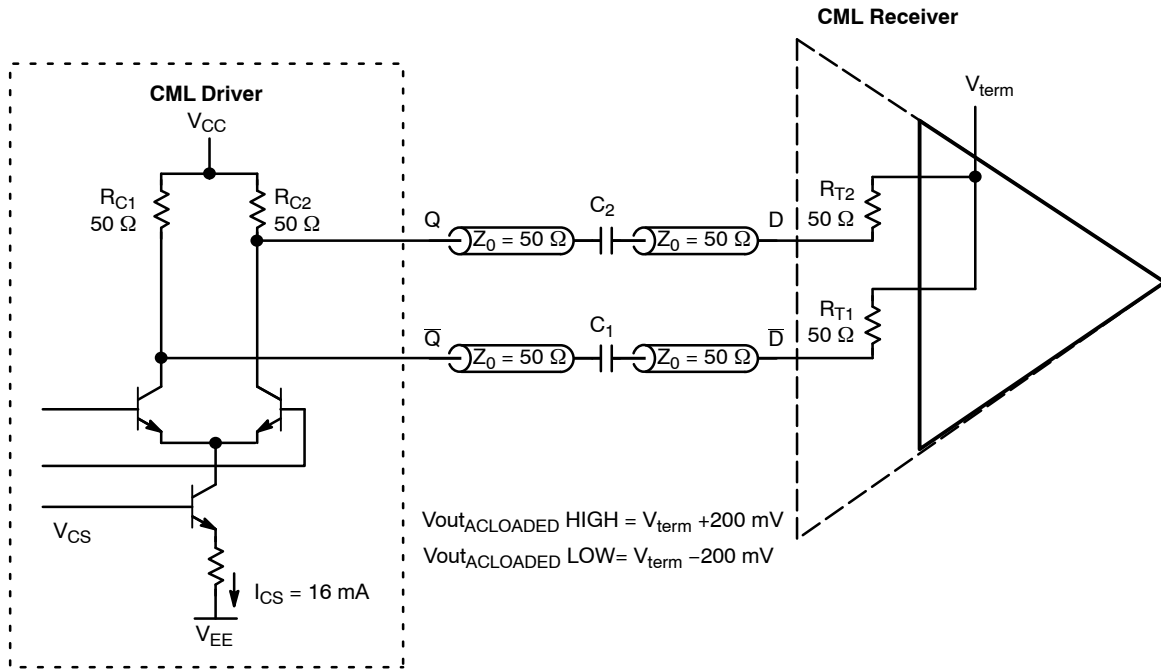

Figure 7. CML Output with Cap Coupling (AC) and Load Termination of 50 Ω to V_{term}
A driver and receiver using a cap, C_x , coupled (AC) differential interconnect and receiver side 50 Ω termination (R_T) requires a DC receiver side rebiasing, V_{term} , to the signal lines as shown in Figure 7. The coupling cap, C_x , value and the load impedance constitute an RC network affecting the signal edges. Cap coupling (AC) restricts low frequency response and may require coding to maintain a sufficient crossing density.
This AC coupled pair in Figure 7 will produce characteristic signal levels per Table 3.
The V_{term} DC bias supply associated with the CML receiver in Figure 7 needs to accommodate the receiver common mode range and bypassed to enhance rejection of common mode noise. Typically, the V_{term} bias supply may be connected directly from the receiver R_T pins whether internal or external to the driver. When internal, the pin connect to the fixed value 50 Ω (R_T) resistors may be singulated or combined. If external, the termination resistor (R_T) value may be changed to accommodate the specific transmission line impedance.